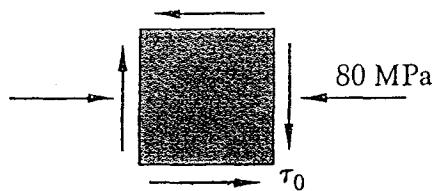

Figure 3: state of plane stress of aluminum alloy pipe
- [b] The state of plane stress shown in Figure 3 will occur at a critical point in a cast pipe made of an aluminium alloy for which $\sigma_{UT} = 75 \text{ MPa}$ and $\sigma_{UC} = 150 \text{ MPa}$. Using Mohr's criterion, determine the shearing stress τ_0 for which failure should be expected.